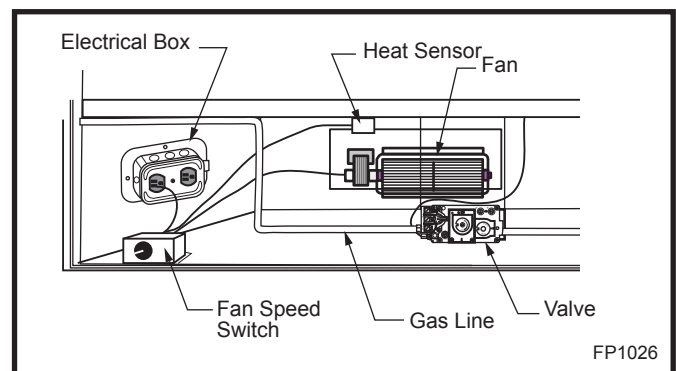

Fig. 91 FK24 fan placement.
1. Slide fan assembly from the left side into the fireplace opening, line up mounting holes with screw studs on back of fireplace and fasten with #10 - 24 hex nuts. (Fig. 91)